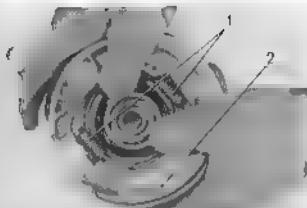

Fig. 4.86 Disassembling brake shoe
7. The brake shoes are held in place by springs ①, therefore, spread the shoes apart to disassemble from the brake panel. (Fig. 4.86)